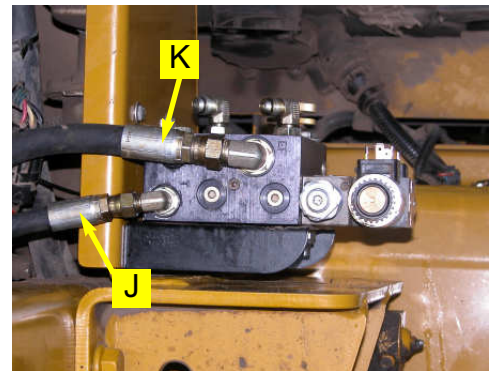

Figure 4c. Excess flow and tank hoses connected to Automated Steering Block.
- d. Connect the excess flow hose (**K**) from the **EF** port of the Automated Steering Block to the hose removed from the priority divider. (Figure 4c.)